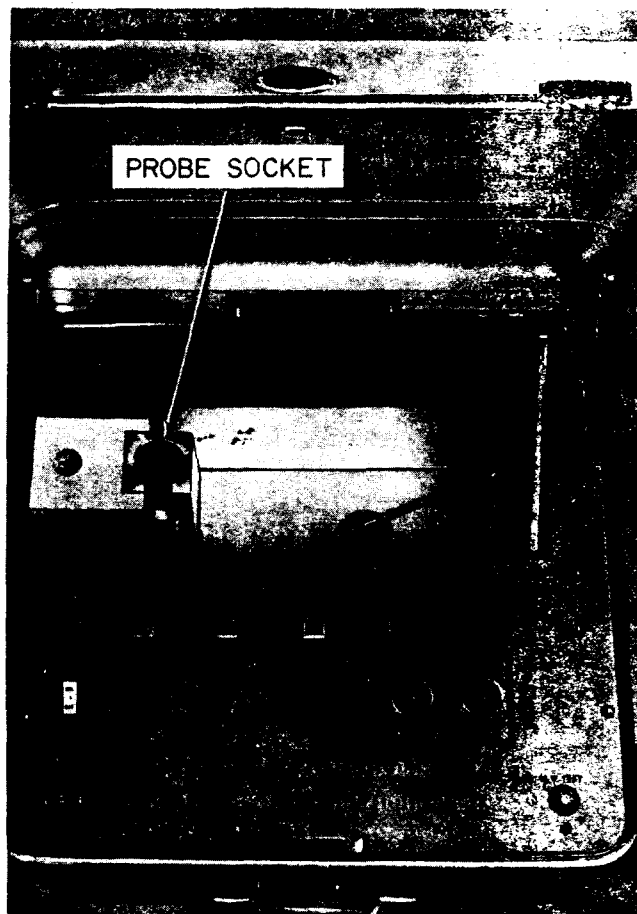

Fig. 3—Probe Socket
3. Open the test lid and raise the probe socket (Fig. 3).